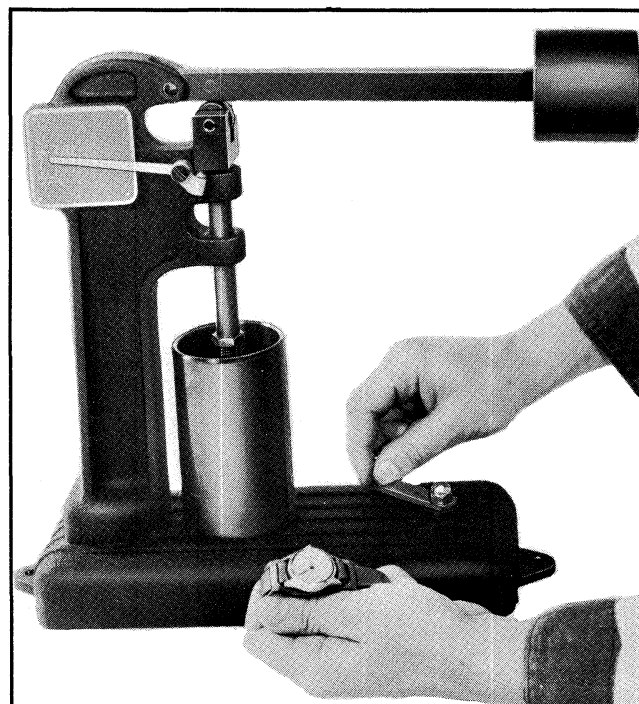

Fig. 6-103 Testing Leak-Down Rate
After all lifters have been assembled, the leakdown rate must be checked before they are installed in the engine. Valve lifter leakdown tester J-5790 (Fig. 6-103) is designed to test leakdown rate of lifters to determine whether or not they are within specified limits. As with previous service operations concerned with lifters, cleanliness is important. The tester cup and ram should be thoroughly cleaned, and testing should be done in an area free of dust and dirt. The testing procedure is described in the following steps:
5. Raise weight arm to allow plunger spring to expand fully; lower arm onto ram and commence turning crank slowly (1 revolution every 2 seconds). Time indicator travel from lower line (first line above set line) to line marked .125 or 1/8", while still rotating cup with crank (Fig. 6-103). Lifter is satisfactory if rate is between 12 and 60 seconds.